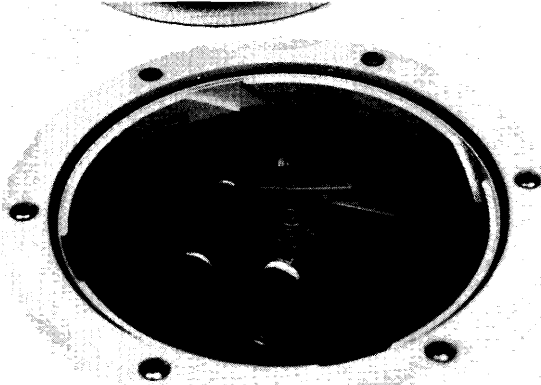

Figure 22
2. Check the fuel compartment for fuel leaks and fumes. Make sure all fuel lines and fittings are tight. See figure 22.